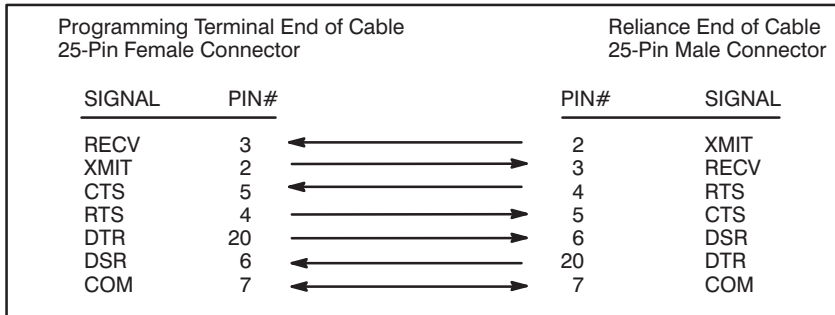

Figure 1
3. Follow the connector manufacturer's instructions and make cable connections using figure 1 or 2, whichever is applicable.